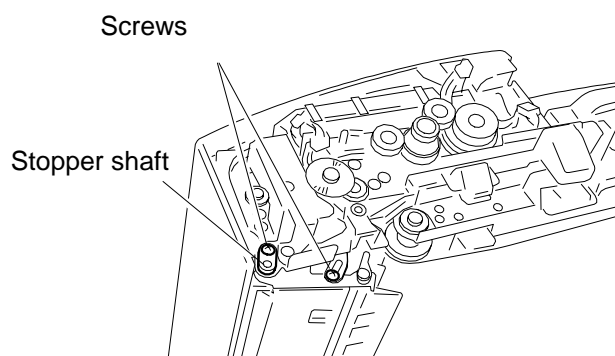

Fig. 15
- 15) Tighten the 2 screws on the front face. (Fig. 15)